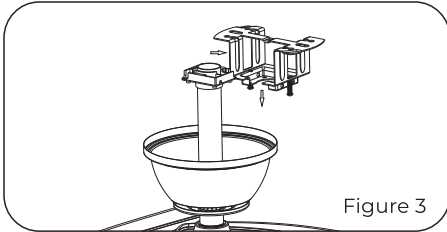

Figure 3
2. Hang the ceiling fan on the bracket and then lower it slowly so that the head and the slot in the bracket are flush with the position of the hanger base. (Figure 3).